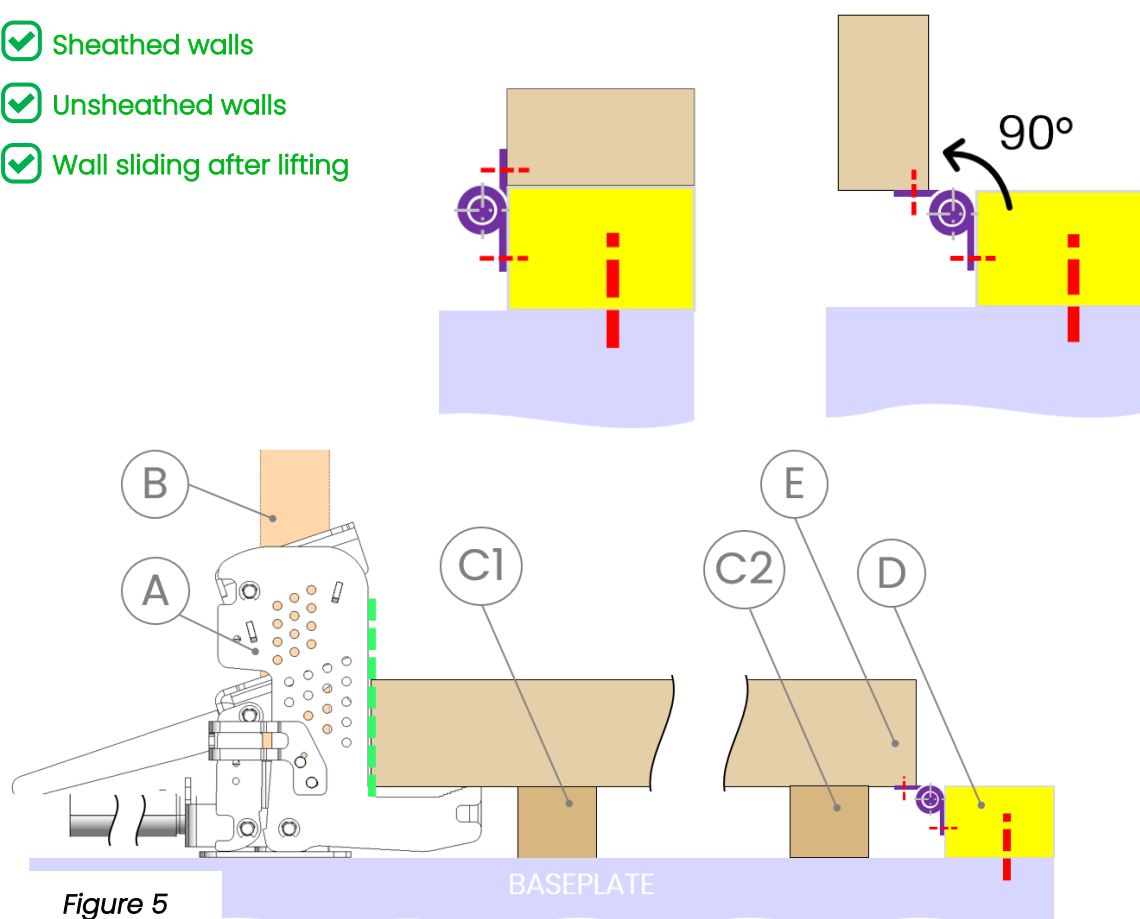

Figure 5
Securing the wall against unwanted sliding using the door hinges is shown in Figure 5. On a bottom plate, already fixed to the baseplate, lay down the lower plate's long side of the coming wall, as it is shown in Figure 5. Below. Align frontal faces together. Screw at least 3 hinges along these flanges onto these surfaces. Make sure about the same mounting height of all hinges. After fixing the hinges to the bottom plate (D) and also to the lower plate of the wall, tilt the lower plate by 90°. In this position you will continue with the wall framing.
**BOTTOM PLATE (Figure 5, letter (D)) HAS TO BE ALWAYS FIRMLY